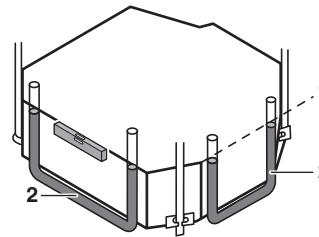

Fig. 9
(4) Check if the unit is horizontally levelled.
- Check if the unit is levelled at all four corners with a water level or a water-filled vinyl tube as shown in **Fig. 9**.